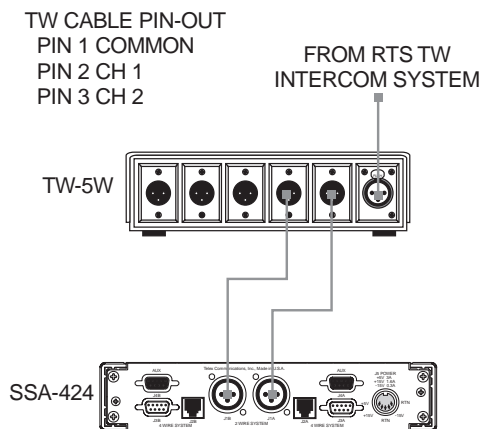

Figure 3. Using a TW-5W to connect two TW channels to the SSA424.
1. Use standard TW intercom cables. Note that standard TW system cables can carry either one or two channels, while each hybrid in the SSA-424 can only interface one TW channel to one 4-wire channel (which channel is determined by the front panel 2W CHAN SEL switch). If your TW system cable is only carrying one channel, or if you only need to connect one of two channels, connect directly to J1A (System A) or J1B (System B). If your TW system cable is carrying two channels, and you want to connect both, use a TW-5W or similar device as shown in Figure 3.